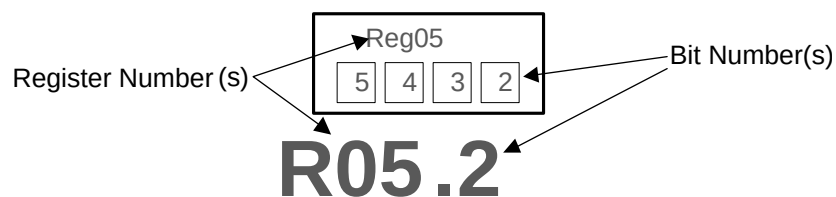

**Figure 39. CDCM6208 Register Reference Format**
Figure 39 shows the method this document employs to refer to an individual register bit or a grouping of register bits. If a drawing or text references an individual bit, the format is to specify the register number first and the bit number second. The CDCM6208 contains 21 registers that are 16 bits wide. The register addresses and the bit positions both begin with the number zero (0). A period separates the register address and bit address. The first bit in the register file is address 'R0.0' meaning that it is located in Register 0 and is bit position 0. The last bit in the register file is address R31.15 referring to the 16th bit of register address 31 (the 32nd register in the device